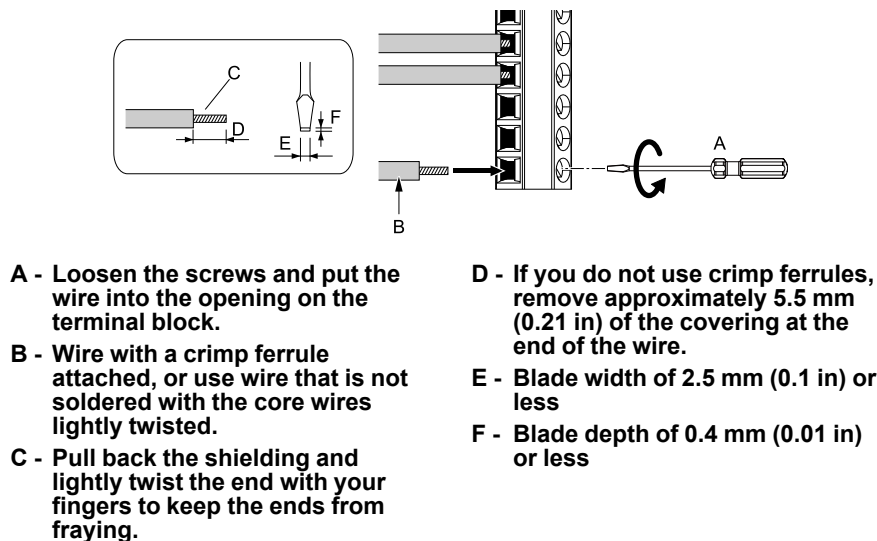

Figure 3.16 Wiring Procedure for the Control Circuit
1. Refer to Figure 3.16 and wire the control circuit.